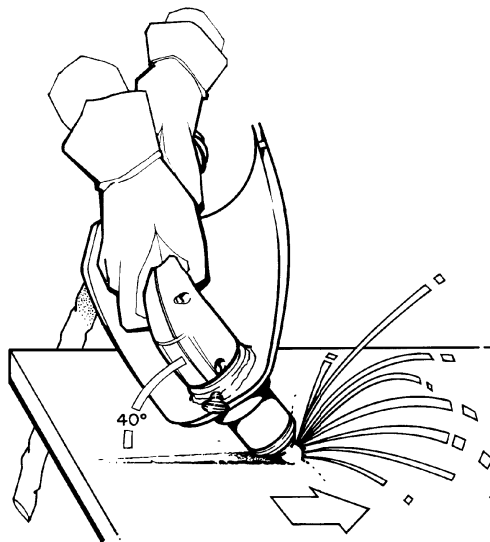

Figure 4-7 Feeding Into Gouge
4. Tilt the torch approximately 40° from the surface to be gouged and feed into the gouge (Fig. 4-7). Use the straight gouge (90°) or side gouge (45°) technique (see Figs. 4-8 and 4-9). Multiple passes or “weaving” may be necessary to gouge wider and deeper sections (see Fig. 4-8 for straight weaving and Fig. 4-9 for side weaving).